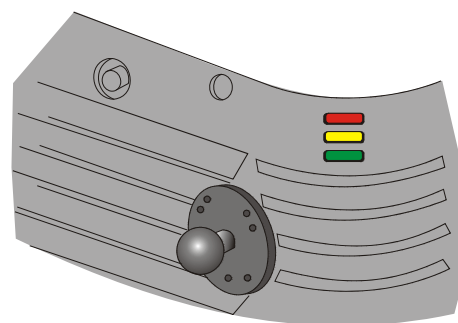

Figure 4-1 Projector Status LEDs
2. Check the status of the LEDs on the rear corners of the projector. (**Figure 4-1**). If there is no activity, see #3.